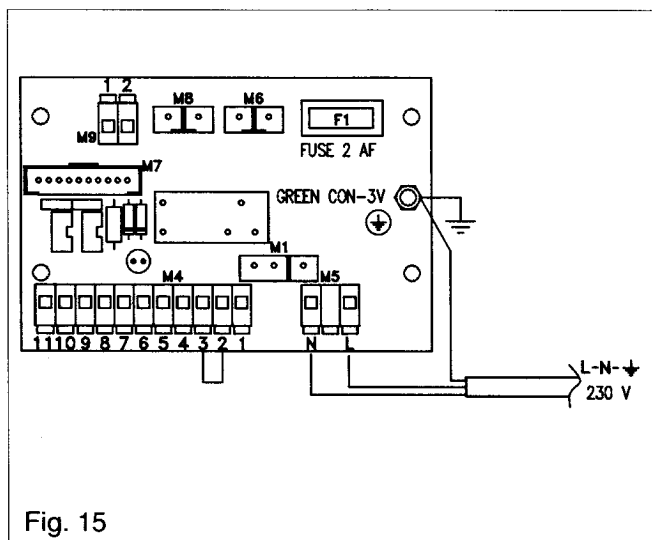

Fig. 15
4.8.3 CONNECTING THE MAINS (230V) INPUT (see fig. 15)